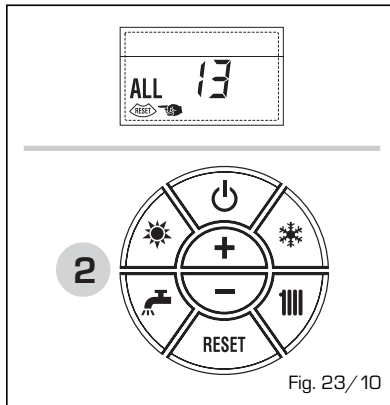

Fig. 23/10
**- ANOMALIA GUASTO SONDA FUMI "ALL 14" (fig. 23/11)**